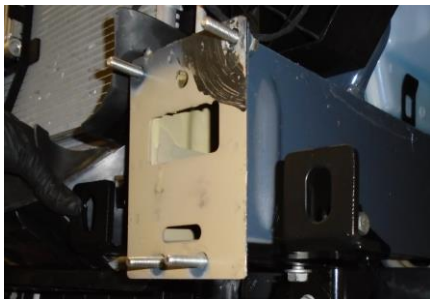

Figure 18: M8 Bolts Installed
17. Install the eight (8) provided M8 bolts with eight (8) split washers through the frame, from back to front, creating studs to mount the winch tray onto (Reference Figure 18).